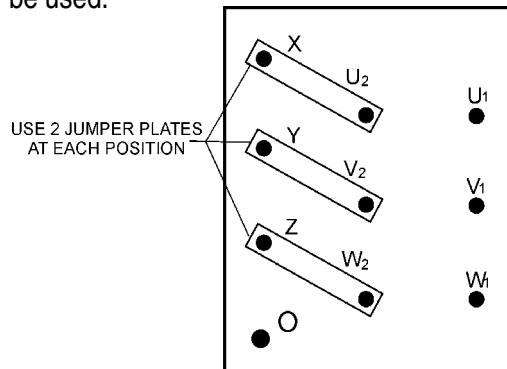

Figure 26. Voltage Change-Over Board 480V Configuration
1. Jumper the voltage change-over board for 480V operation as shown in Figure 26. This configuration uses 6 jumper plates in 3 different positions. Remember there are 2 jumper plates at every position. Every jumper plate **must** be used.
1. Make sure the voltage change-over board is jumpered for 480V operation as shown in Figure 26.